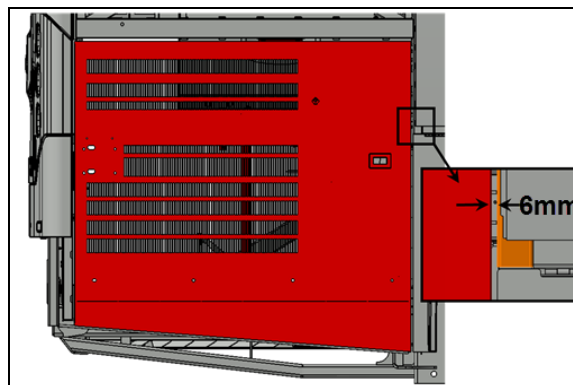

FIGURE 48
5. Check the gap between the door and the adjacent panel at the level of the upper attachment point of the arm on the door. The gap should be 1/4" (6 mm) (FIGURE 48).